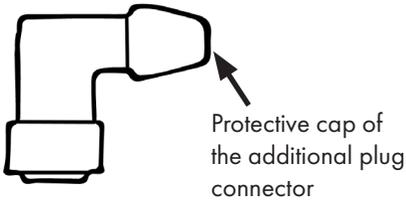

Figure 30
- Take the additional plug connector and remove the protective cap from the connector, Fig. 30.